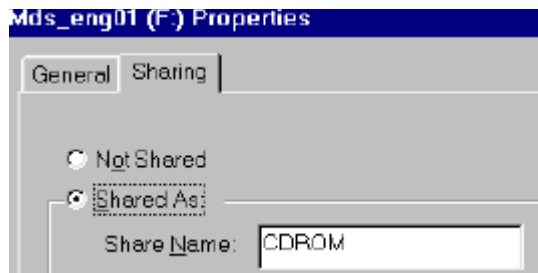

Figure 15-7 Properties Window
3. Click on *Shared As* button (see Figure 15-7) in Properties window, and type **CDROM** in "Share Name:" box.